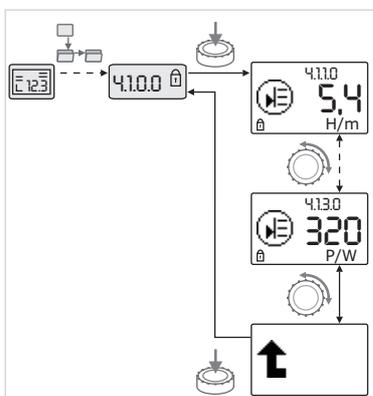

Fig. 43: Calling up information
• Turn the operating button to access the “Information” menu elements in the current sub-menu (see Fig. 43). For an explanation of the settings represented by the symbols, see the table in chapter 8.7 “Menu elements reference” on page 99.